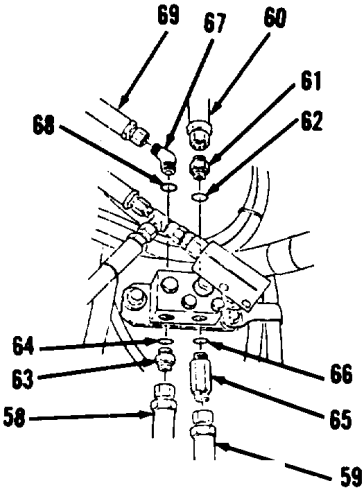

Figure 10-176.
- 23. Remove hose assemblies (58, 59 and 60, Figure 10-176) from hydraulic pump relief valve.
- 24. Remove connector (61), preformed packing (62), connector (63), preformed packing (64), connector (65) and preformed packing (66). Discard preformed packings (62, 64 and 66).
- 25. Disconnect hose assembly (69) from top of hydraulic pump relief valve.
- 26. Remove connector (67) and preformed packing (68).